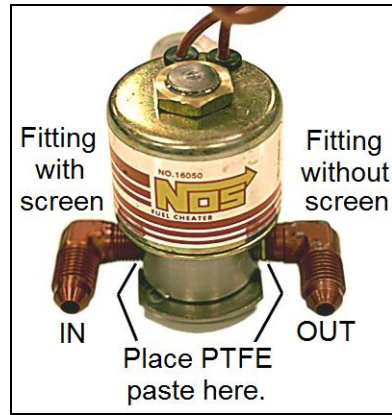

Figure 8
2. Apply a small amount of PTFE thread sealant to the NPT threads of the **nitrous outlet fitting** and insert into the **OUT** side of the nitrous solenoid. In a vice, tighten at least 1-1/2 turns after finger tight. **(Figure 8)**